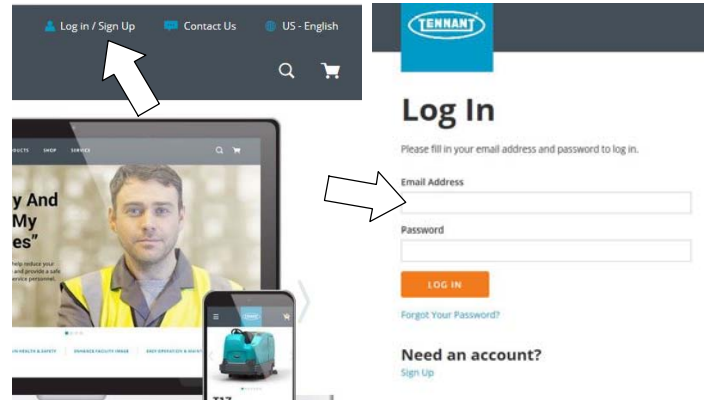

Fig. 22
1. Log in or Sign Up to create an account (Figure 22).